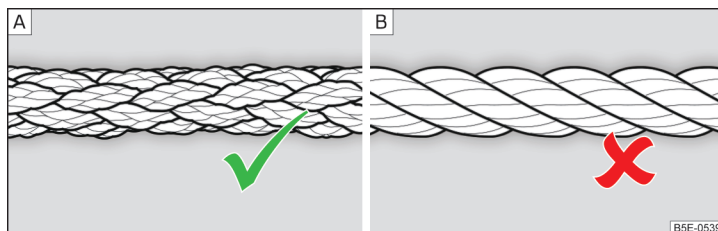

Fig. 189 Braided tow rope / Spiral tow rope
For towing, a braided tow rope is to be used » Fig. 189 - **A**.
- Do not use spiral rope for towing » Fig. 189 - [B], the towing eye may unscrew from the vehicle - risk of accident.